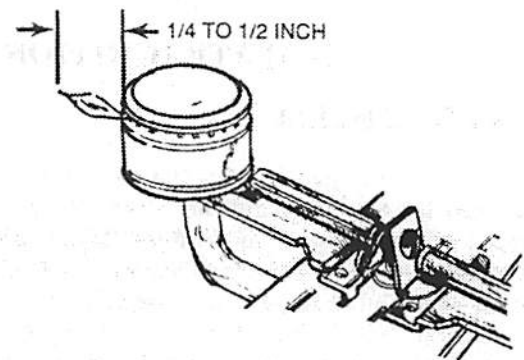

FIGURE 20
2. Adjust the air shutter until the inner blue cones of the flame are approximately 1/4 to 1/2 inch long (fig. 20) from port to end of cone. The outer cone is not as distinct as the inner cone.